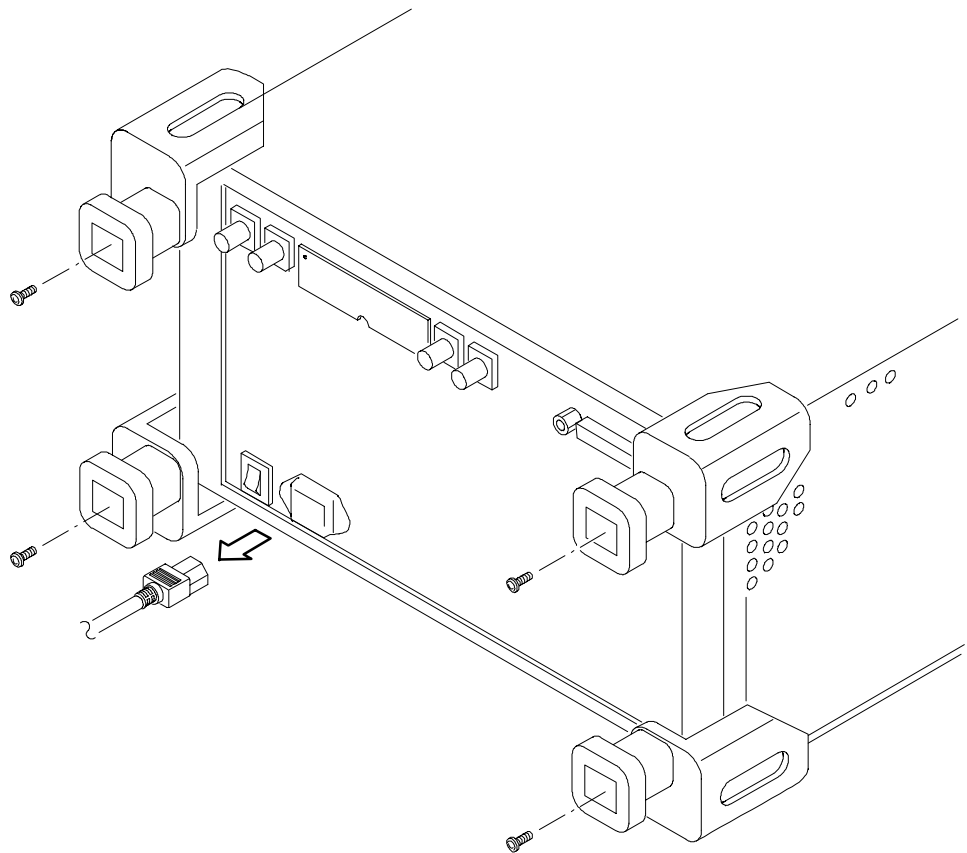

Figure 4: Removing the rear cushions
- b. Remove the one screw securing the rear cushion over the cabinet to the rear panel at each corner. Detach the cushions. See Figure 4.